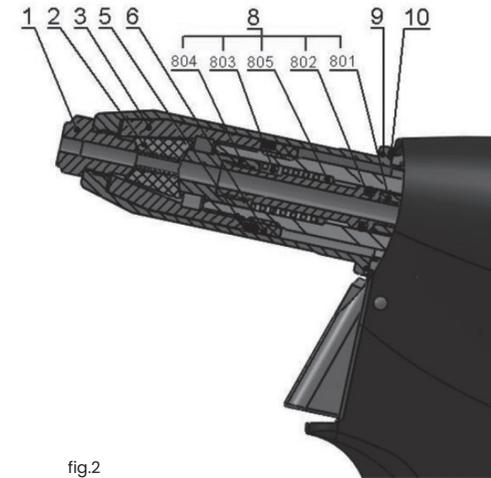
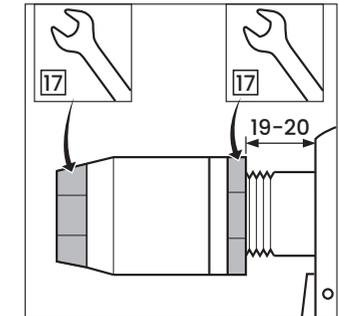

fig.2
fig.3
Disconnect the tool from the source of compressed air, unscrew the front nozzle /fig.2 - pos.9/ by means of a spanner no.23, set the spanner no.17 onto the clamping sleeve /fig.2/, set the spanner no. 17 on the backnut /fig.2 - pos.6/ and loosen. Unscrew the clamping sleeve, replace the jaws /fig.2 - pos.2/ and conduit-suction complete /fig.2 - pos.8/. All used threads are clockwise. Clean the dismantled parts thoroughly and check them visually, especially the following:
1. Jaws /fig.2 - pos.2/ - if worn or damaged, replace it, if dirty, clean it with a wire brush.
2. Nosepiece /fig.2 - pos.1/ - for wear of functional surfaces of the taper.
3. Conduit-suction complete /fig.2 - pos.8/ - inspect parts of the assembly, jaw pusher /fig.2 - pos.804/, spring /fig.2 - pos.803/, washer of spring /fig.2 - pos.803/, O - ring /fig.2 - pos.802/ and conduit-suction /fig.2 - pos.801/ - if damaged or worn, replace it with a new one.
4. Front nozzle /fig.2 - pos.9/ - check for damage of the internal surface [Ø 20].
5. Scraper ring /fig.2 - pos.5/ - if damaged or worn, replace it with a new one.
Mount the parts [see par. disassembly] in a reverse order. On the outer surface of the jaws /fig.2 - pos.2/ apply a drop of lubricating oil [we recommend hydraulic oil HLP ISO VG32], apply thin layer of plastic lubricant MOGUL LV 2-3 to the conduit-suction complete /fig.2 - pos.8/. Basic set-up of the jaws is performed as in fig.3.